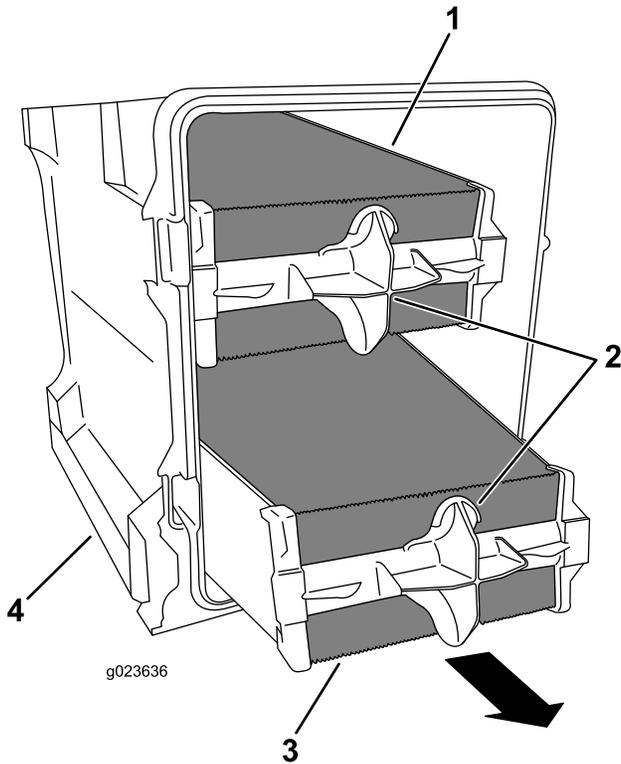

Figure 86
- Using the air-filter handles, remove the primary filter from the air-cleaner cover (Figure 86).